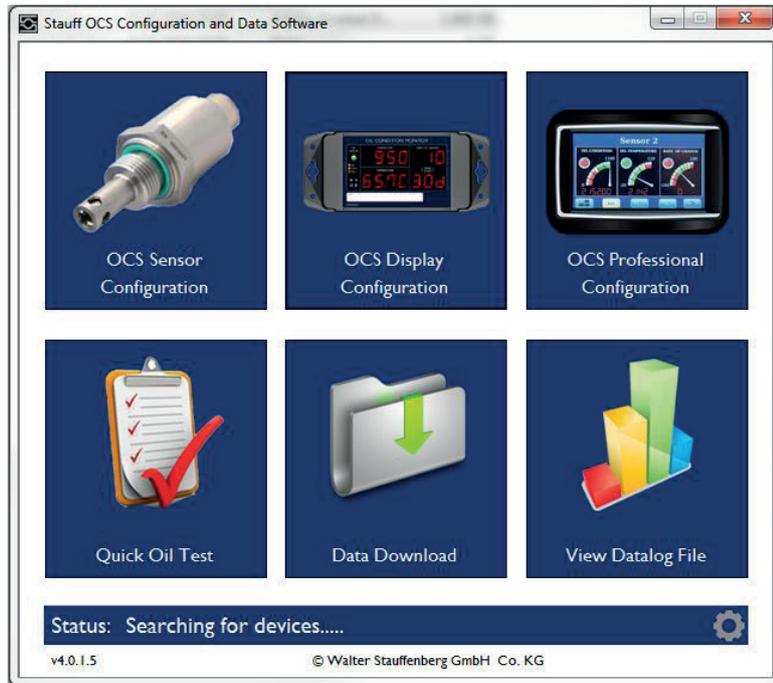

Fig. 4
6. When installation is complete, OCS Software is displayed (see Figure 4).